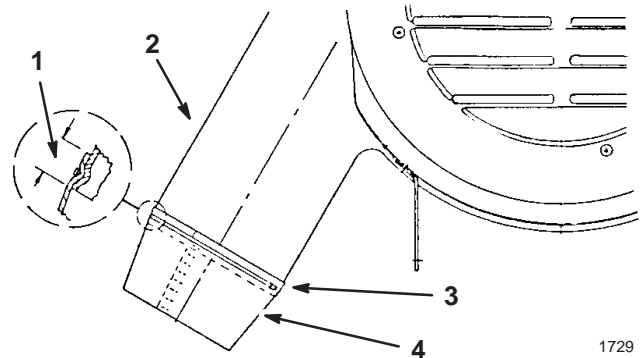

Figure 18
3. Slide the large opening of the seal over the top assembly inlet. Place the seam to the bottom and overlap the seal one inch onto the top assembly inlet (Fig. 18).
4. Position the tie strap in the groove in the top assembly inlet. Pull the tie strap tight to secure the seal to the top assembly, then cut off the loose end of the tie strap (Fig. 18).